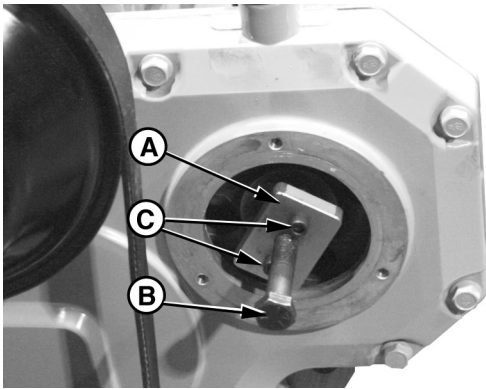

Figure 18 Reproduced by permission of Deere & Company, c.2004. Deere & Company. All rights reserved.
7. Evenly tighten the two 6mm, Grade 12.9 screws (threaded in drive gear) and snugly tighten center forcing screw (Figure 18) against end of pump shaft.
8. Tighten center forcing screw until pump drive gear is free from tapered shaft. Remove JDG670A puller (Figure 18-A) and screws from drive gear.